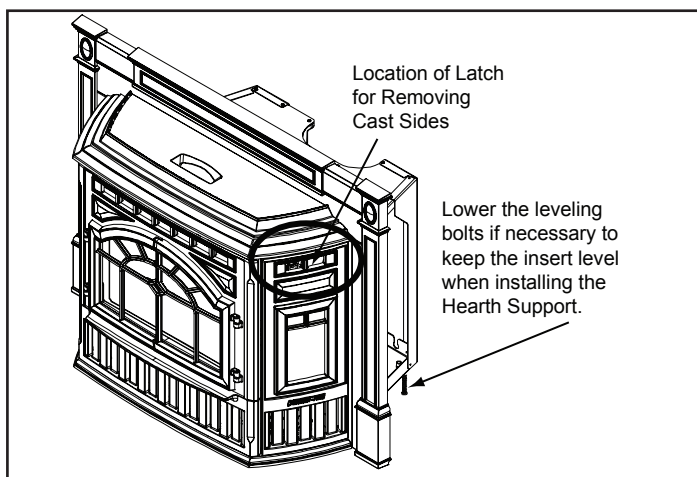

Figure 19.3 - Shown with Cast Panel Set
8. Remove both left and right cast sides from insert. **See Figure 19.3.**
3. Remove the 2 cast sides and slide the assembled trim over the assembled surround set. **Figure 19.3 on pg 19**